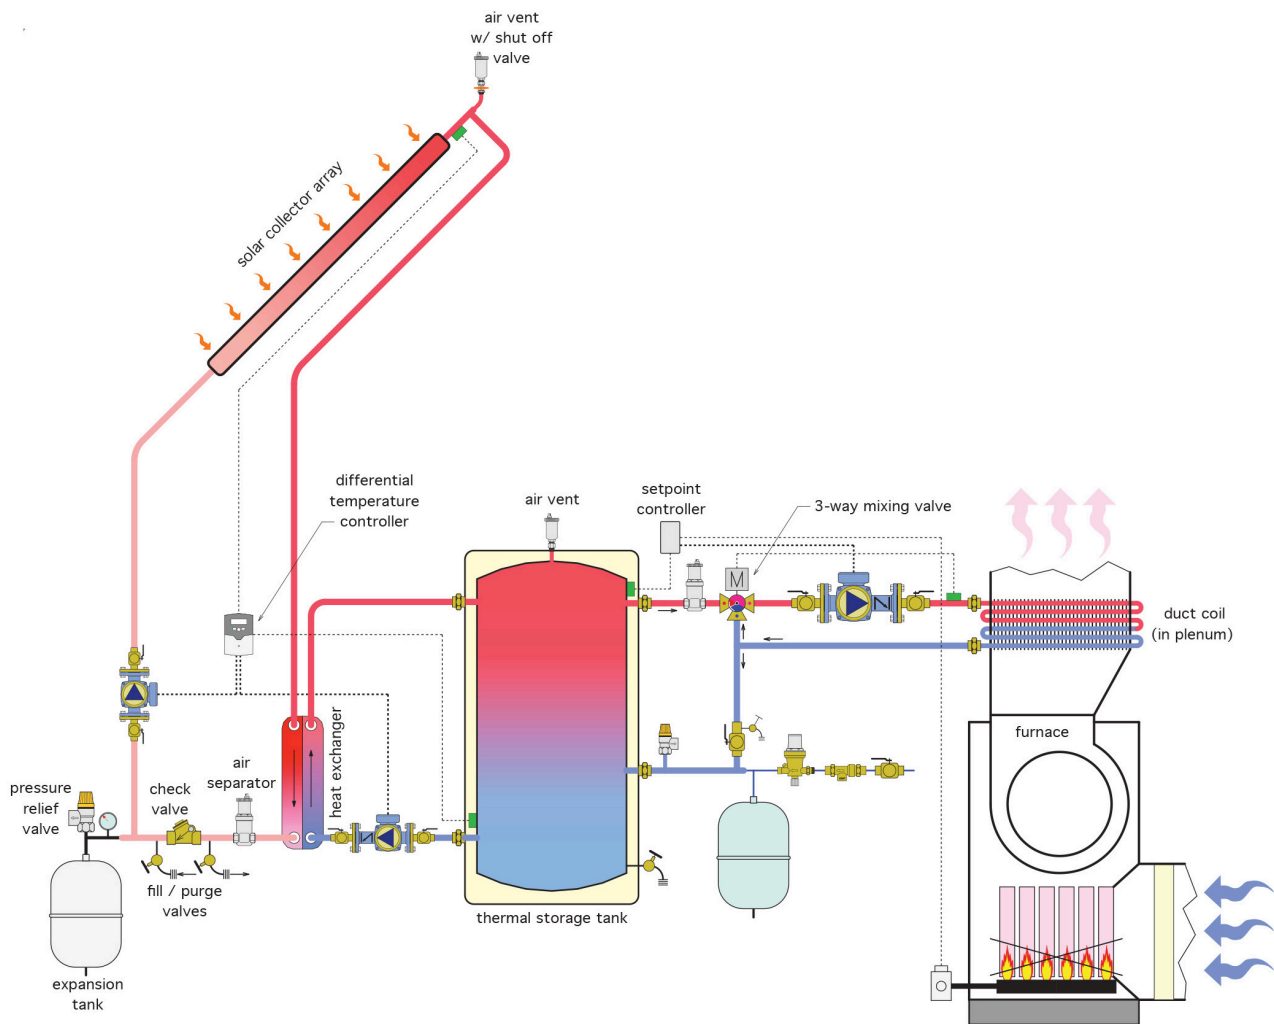

Figure 3 Active solar and forced-air furnace
- Figure 3 Externally-mounted heat exchanger using antifreeze © Caleffi Hydronic Solutions. Used with permission.
Even though the majority of homes in Canada are heating using forced-air systems, an active solar system can be incorporated to assist the energy load. Figure 3 below shows an active solar system in conjunction with a forced-air furnace.